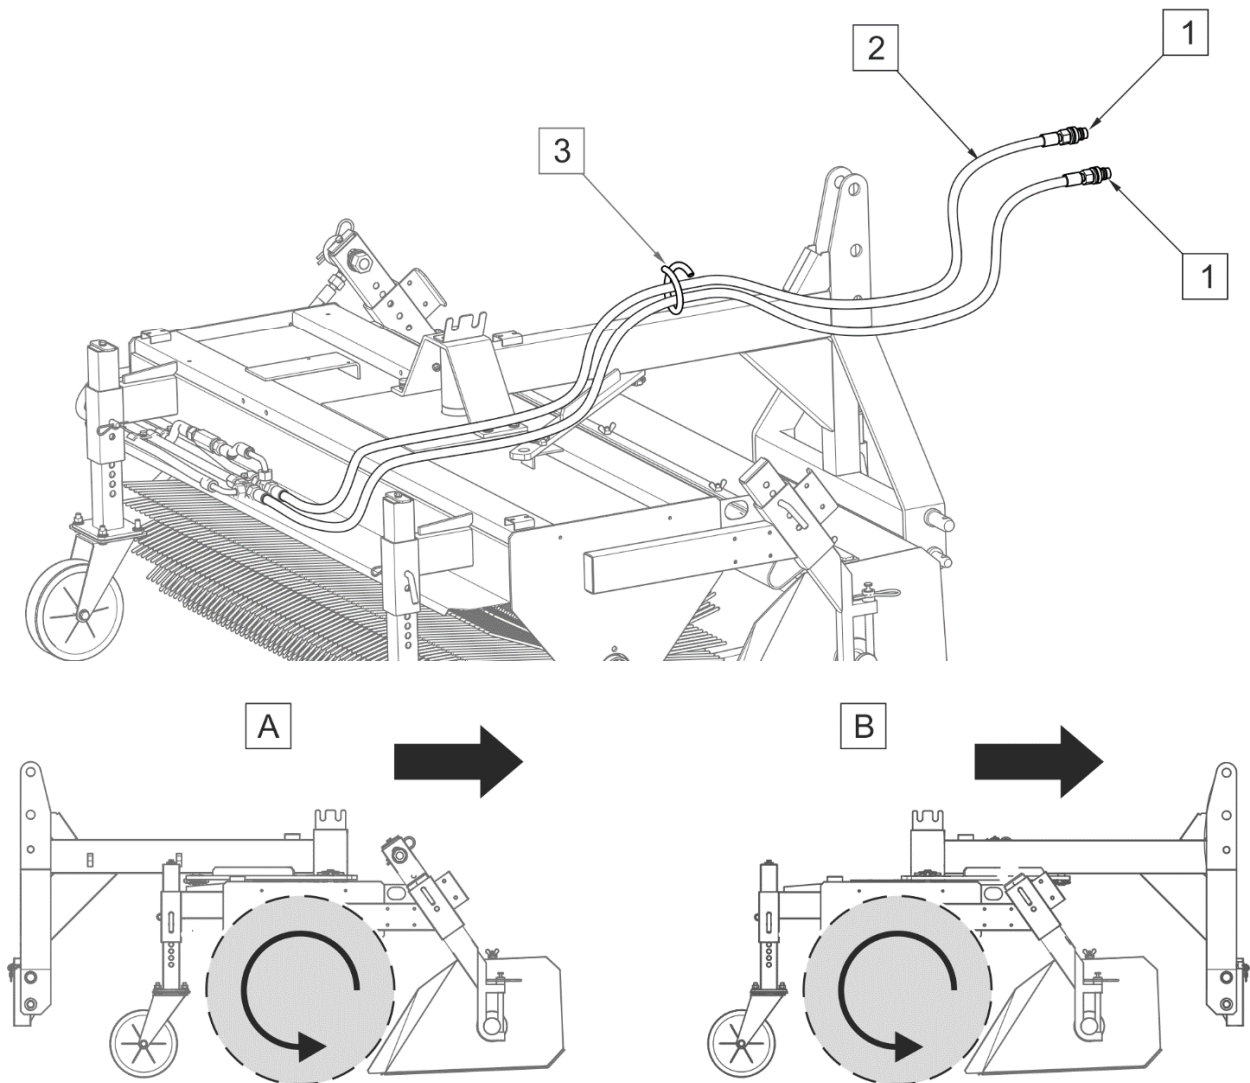

FIG. 4.1 Hydraulic system connection
Activate appropriate hydraulic circuit using the hydraulic manifold lever in the carrying vehicle. Check roller brush rotation direction. The brush should rotate in the direction opposite to travel direction. If the brush does not rotate, swap the hydraulic conduit plugs. If the sweeper is equipped with the three-point linkage, hydraulic conduits should be routed through bracket (3) (FIG. 4.1)